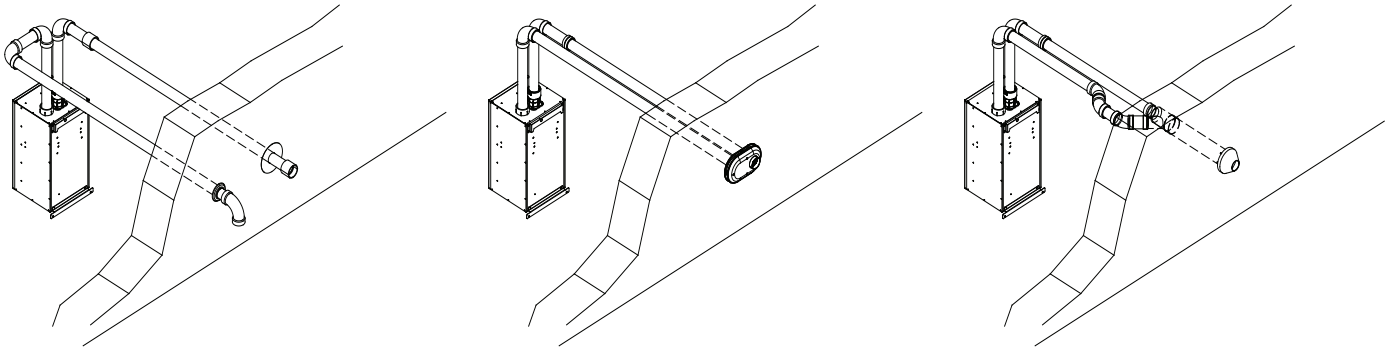

Figure 7.0a: Horizontal Twin Pipe
- **Horizontal (“Side Wall”) Twin Pipe Venting (Figure 7.0a)** - Vent system exits the building through an outside wall. Combustion air and flue gas are routed between the boiler and the terminal(s) using separate pipes for at least part of the way. A summary of Horizontal Twin Pipe venting options is shown in Table 7.5.